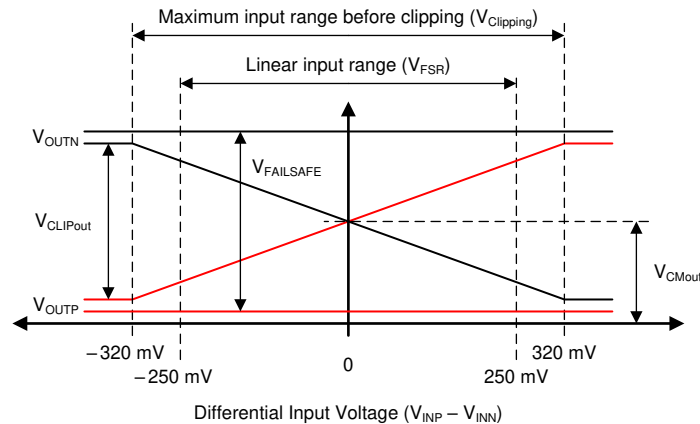

Figure 7-2. Output Behavior of the AMC3301
The AMC3301 offers a differential analog output comprised of the OOUTP and OOUTN pins. For differential input voltages ($V_{INP} - V_{INN}$) in the range from -250 mV to $+250$ mV, the device provides a linear response with a nominal gain of 8.2. For example, for a differential input voltage of 250 mV, the differential output voltage ($V_{OOUTP} - V_{OOUTN}$) is 2.05 V. At zero input (INP shorted to INN), both pins output the same common-mode output voltage V_{CMOut} , as specified in the Electrical Characteristics table. For absolute differential input voltages greater than 250 mV but less than 320 mV, the differential output voltage continues to increase in magnitude but with reduced linearity performance. The outputs saturate at a differential output voltage of $V_{CLIPout}$ as shown in Figure 7-2 if the differential input voltage exceeds the $V_{Clipping}$ value.
The AMC3301 provides a fail-safe output that simplifies diagnostics on system level. Figure 7-2 shows the fail-safe mode, in which the AMC3301 outputs a negative differential output voltage that does not occur under normal operating conditions. The fail-safe output is active in two cases:
- The low-side does not receive data from the high-side (for example, because of a loss of power on the high side). In this case, the amplifier outputs are driven to the V_{FAILSAFE} value that is shown in Figure 7-2.
- The high-side DC/DC output voltage (DCDC_OUT) or the high-side LDO output voltage (HLDO_OUT) drop below their respective undervoltage detection thresholds (brown-out). In this case, the low-side may still receive data from the high-side but the data may not be valid. The amplifier outputs are driven to the V_{FAILSAFE} value that is shown in Figure 7-2.